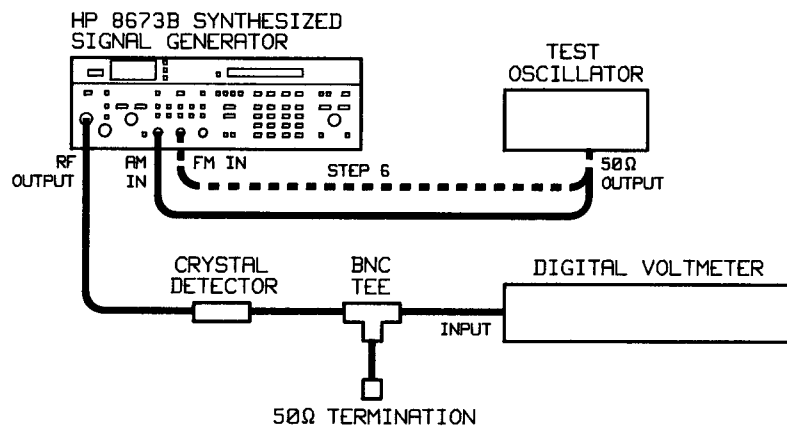

Figure 4-37. Incidental AM Test Setup
1. Connect the equipment as shown in Figure 4-37.